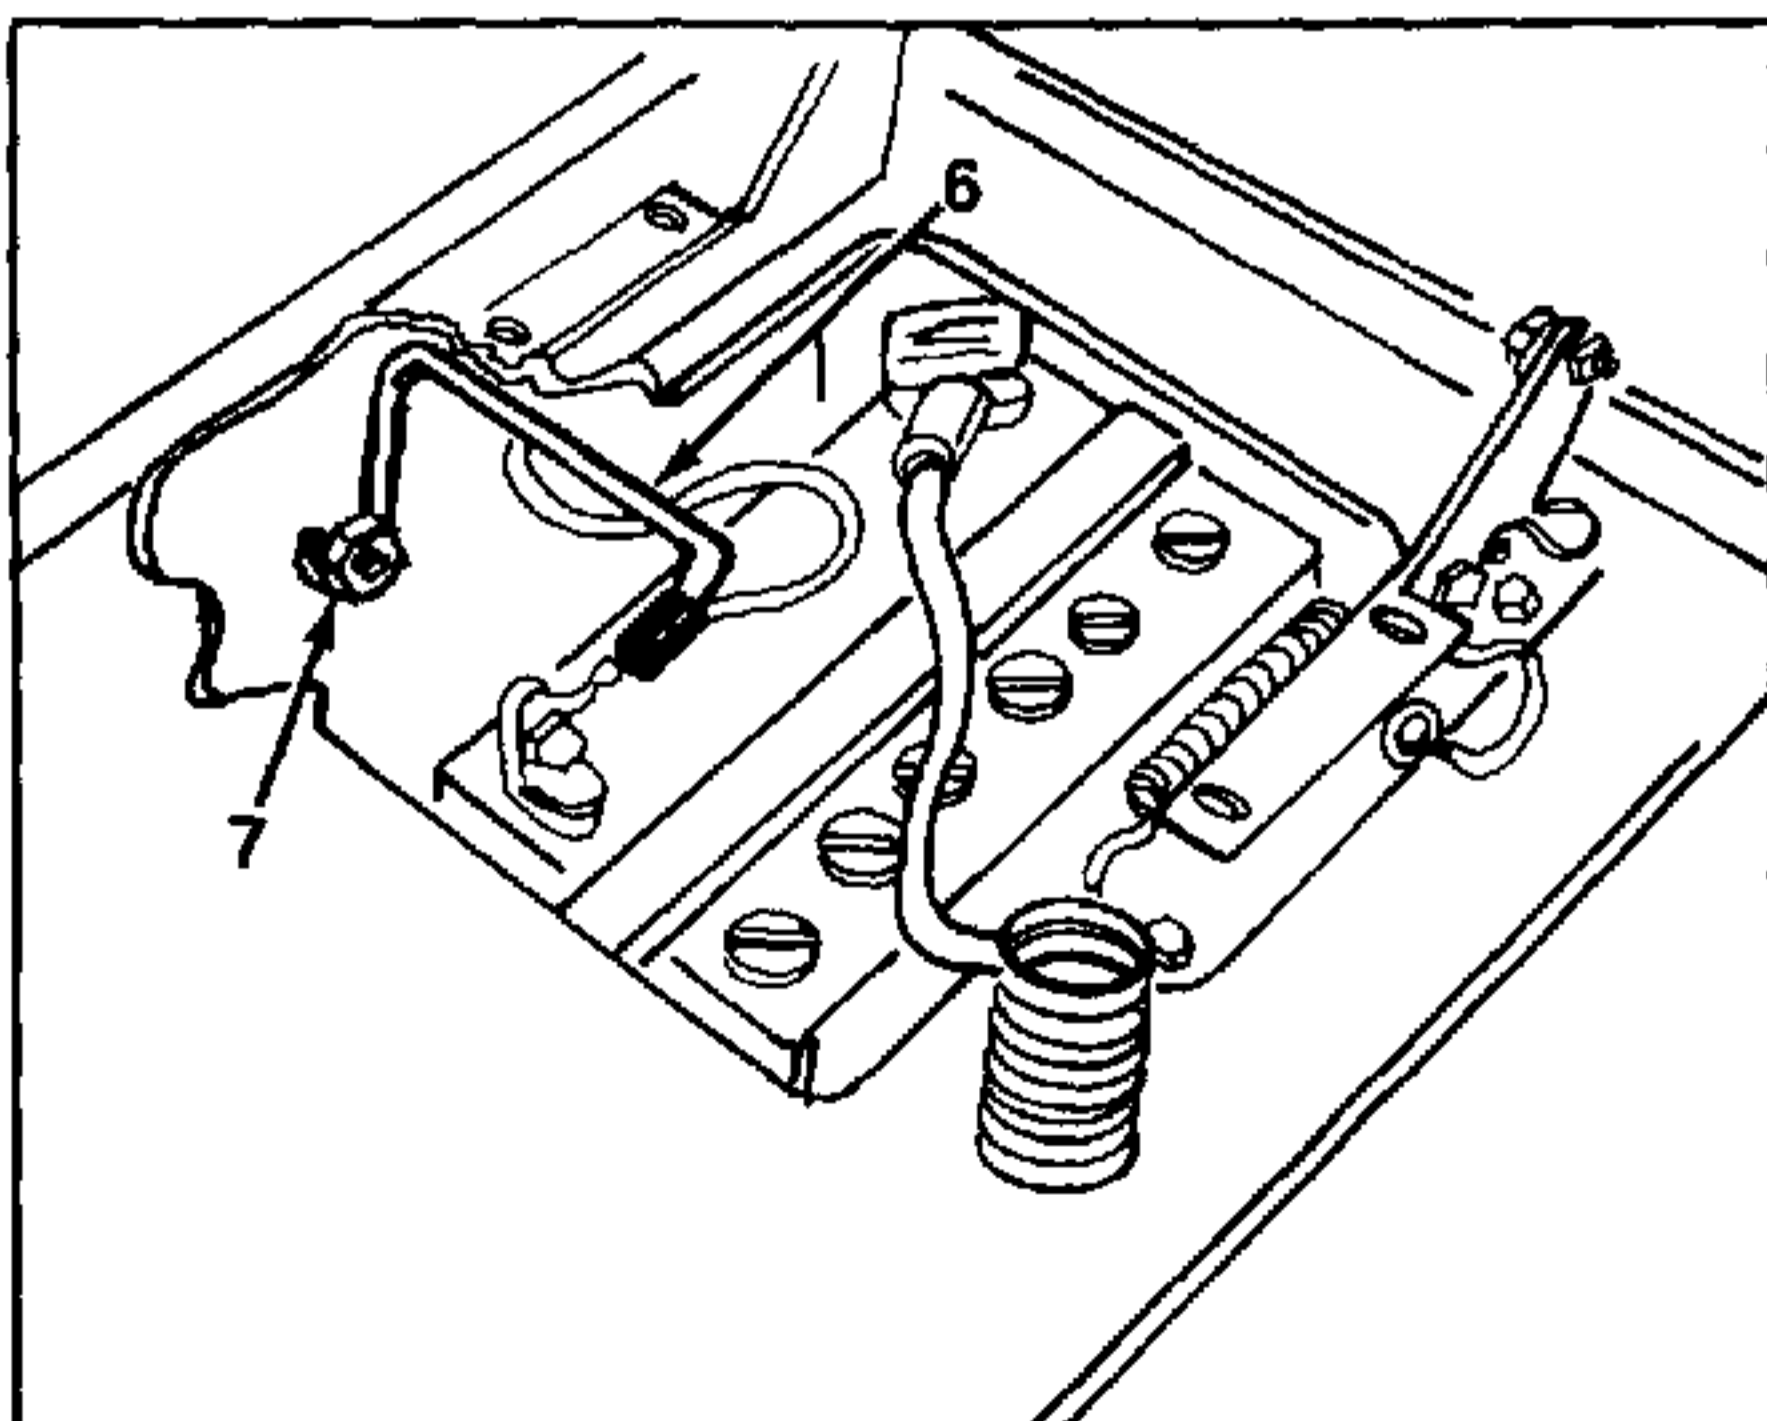

FIGURE 13.
4. Loosen the hex nut holding the battery hold-down rod (located on the left hand fender). See figure 13.